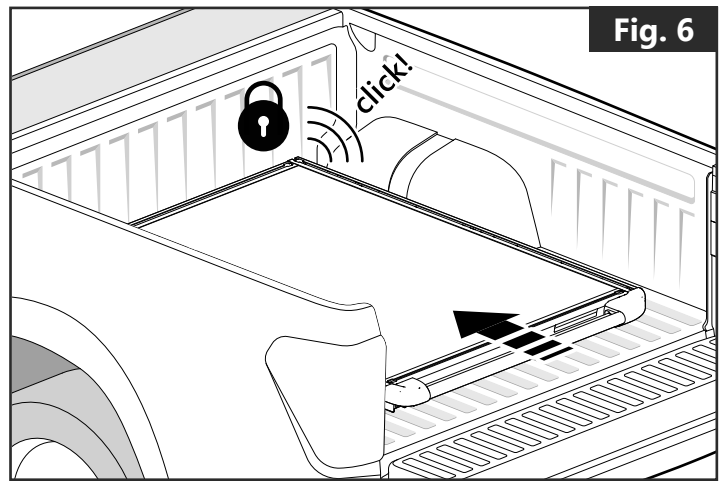

Fig. 6
- Make sure the Mountain Top Slide™ is in a locked position before driving. **(Fig. 6)**